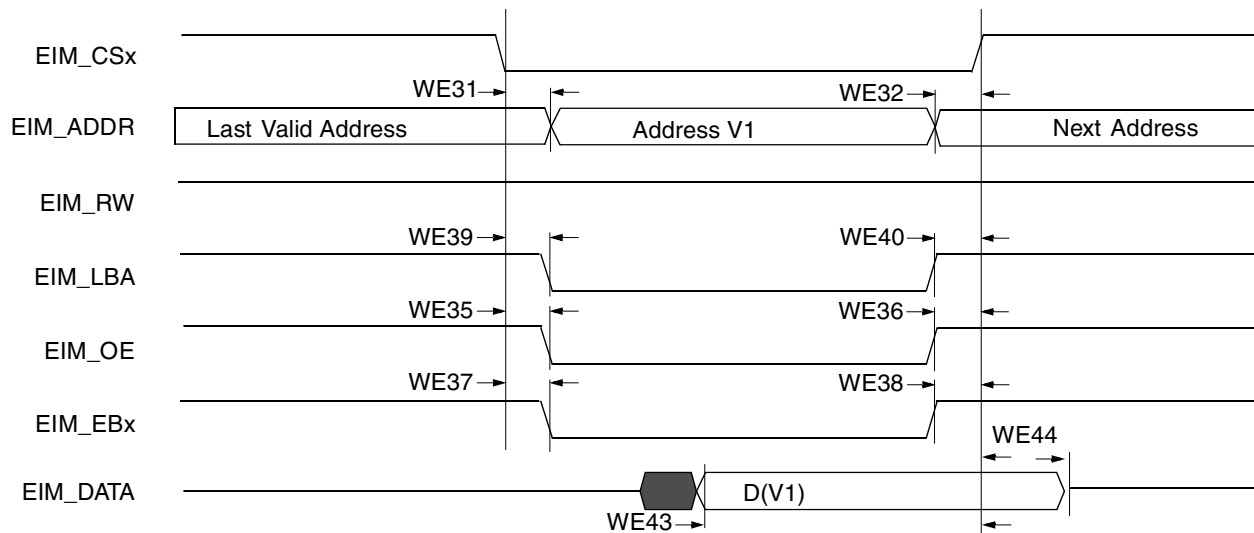

Figure 25. Asynchronous Memory Read Access
Figure 25, Figure 26, Figure 27, and Table 43 help to determine timing parameters relative to the chip select (CS) state for asynchronous and DTACK EIM accesses with corresponding EIM bit fields and the timing parameters mentioned above.